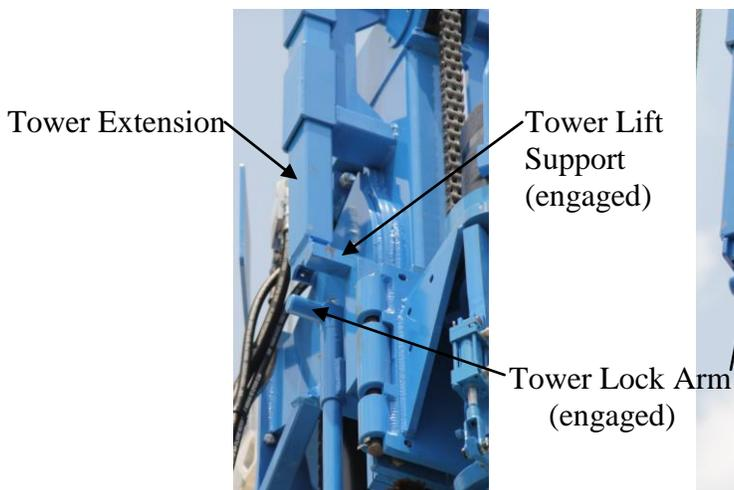
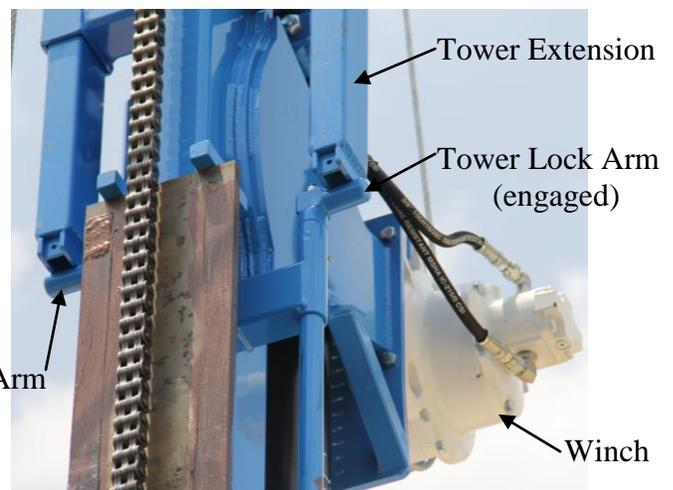
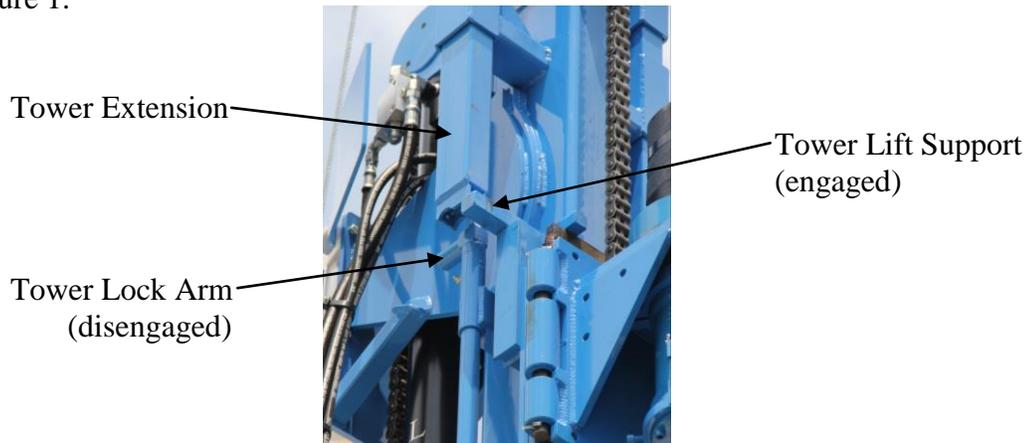

Figure 8
Figure 9
Figure 10
Extending Mast Tower Extension: (Refer to figure 8 and figure 9)
Retracting Mast Tower Extension: (Refer to figure 8 and figure 10)
- Pivot tower lock arms 90° away from mast plate. See figure 10.